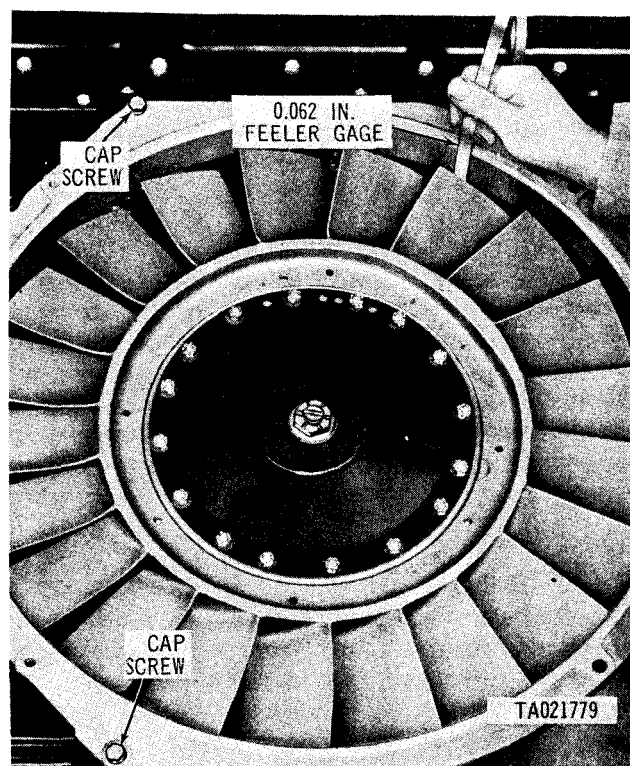

Figure 2-61. Checking cooling fan blade clearance.
(24) With cooling fan shroud and fan housing installed, check clearance between end of each cooling fan blade and rim of cooling fan housing with feeler gage (fig. 2-61). Clearance must be 0.062 inch minimum. When clearance is not within limits, loosen screws (fig. 2-6 1) and shift housing as necessary until clearance is obtained.